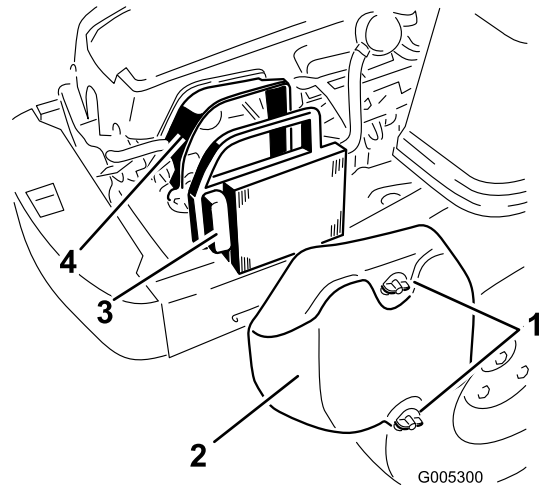

Figure 22
1. Remove the air cleaner cover (Figure 22).
2. Remove the air cleaner element with the integral rubber seal (Figure 22).
5. Install the air cleaner element with the pleated side “out” and seat the rubber seal onto the edges of the air cleaner base (Figure 22).
6. Reinstall the air cleaner cover and secure with the two knobs (Figure 22).